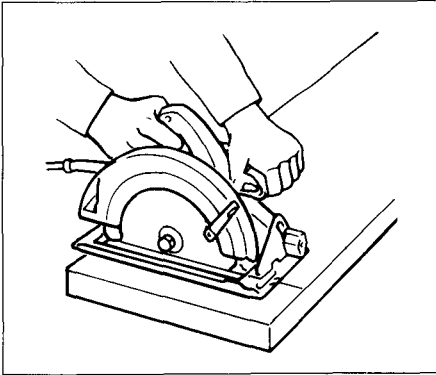
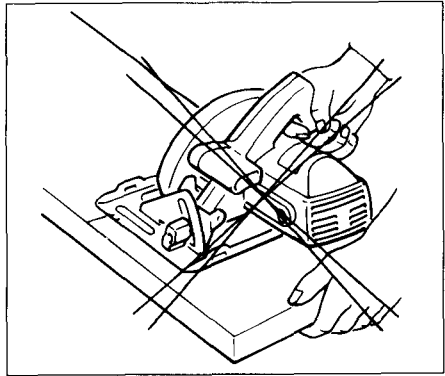

Fig. 5
Fig. 6
15. Place the wider portion of the saw base on that part of the workpiece which is solidly supported, not on the section that will fall off when the cut is made. As examples, Fig. 5 illustrates the RIGHT way to cut off the end of a board, and Fig. 6 the WRONG way. If the workpiece is short or small, clamp it down. DON'T TRY TO HOLD SHORT PIECES BY HAND!